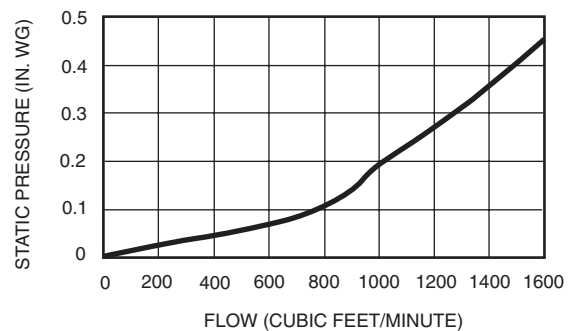

Fig. 32 — Barometric Relief Capacity
6. See Fig. 32 for barometric relief damper characteristics.